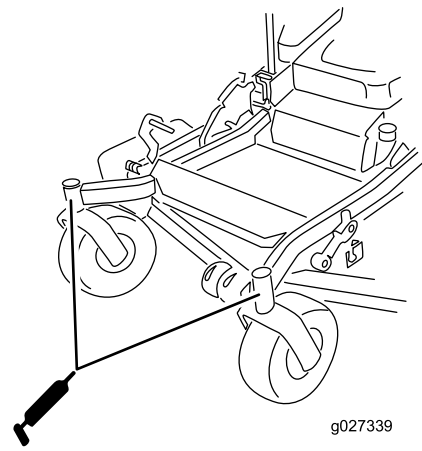

Figure 44
- Install the hex plug and dust cap (Figure 44).